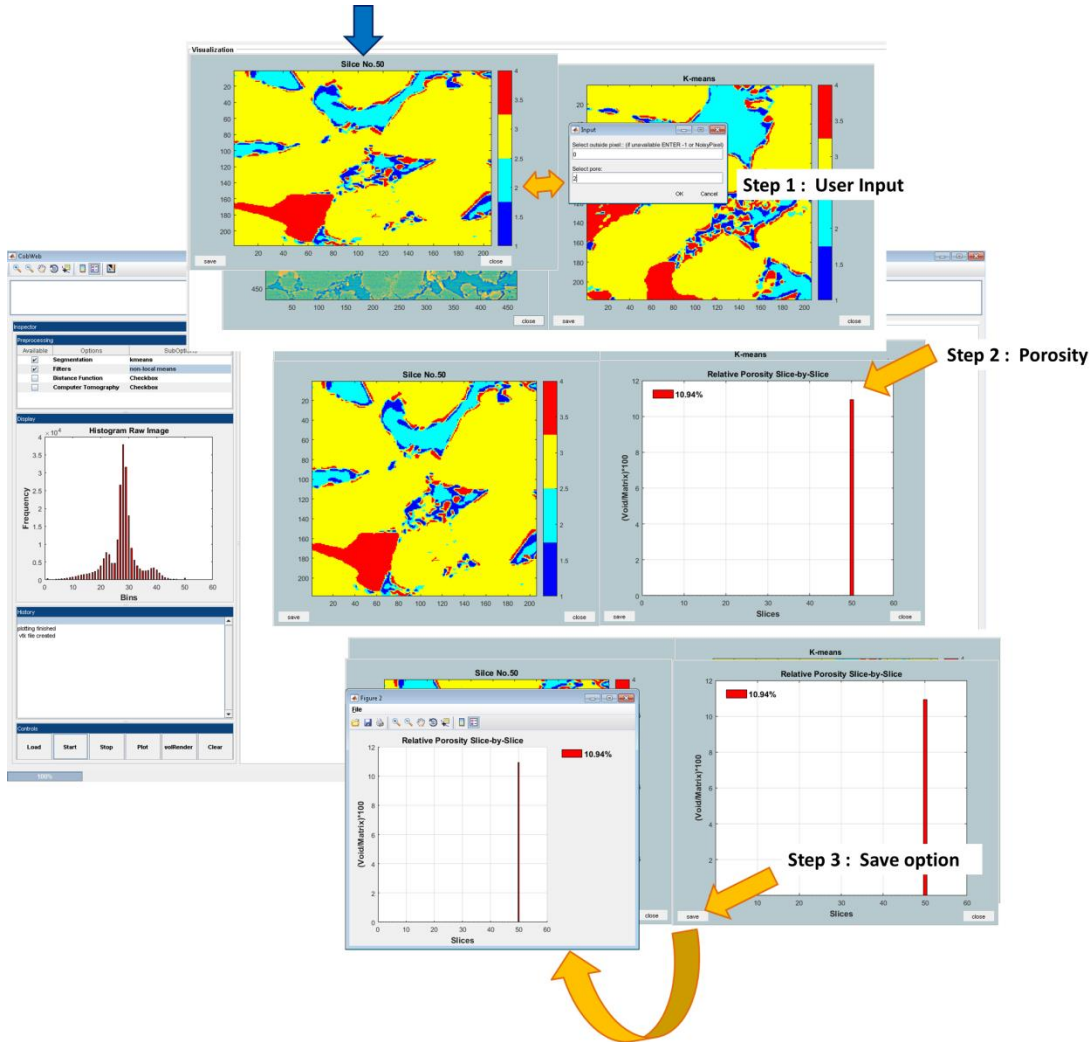

Figure 32: Porosity of single slice
- Figure 32 displays the slice (no. 50) in a new window.
- Step 1 (Figure 32): **Enter** the **cluster number** assigned to the **pore phase** and noise phase. If the noise phase is not displayed or has not been assigned a cluster value, enter zero.
- Figure 32 displays **the slice** (no. 50) plotted in a **new window**. **Input** in this case no. 2.
- Step 2 (Figure 32): **Relative porosity** of the **single slice** is plotted in a **new window**.
- Step 3 (Figure 32): By clicking the save option, the image can be exported into the desired image format.